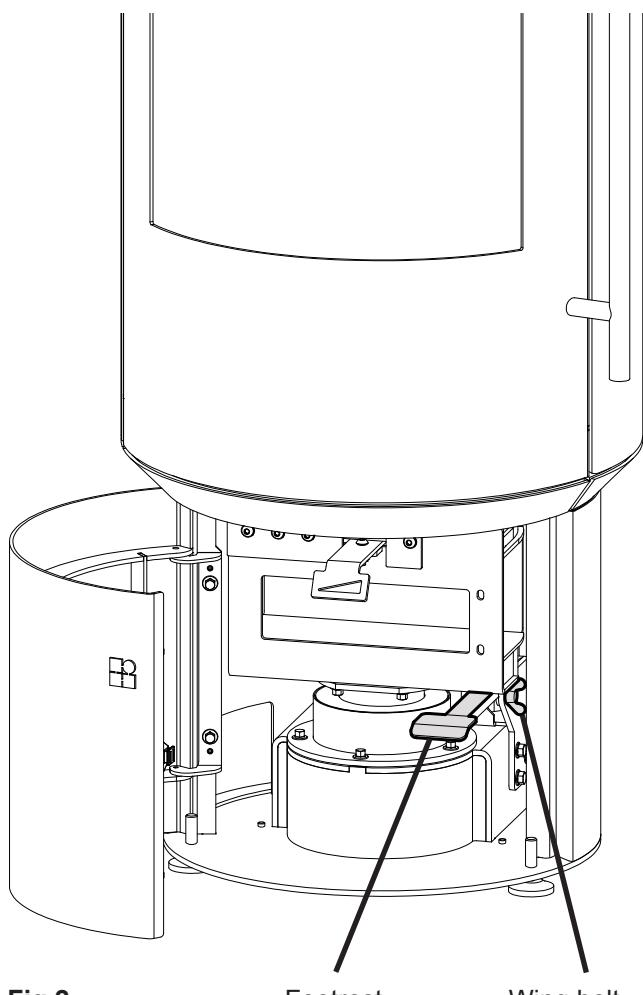

Fig.2
The stove is delivered with the footrest engaged (not rotating). If you want the appliance to rotate, you need to unscrew the wing bolt located on the right side of the footrest (see Fig.2). The footrest is located behind the inspection door.
- To allow for easier installation of the OEC, turn the rotating portion of the appliance all the way to the left / right using the footrest (see Fig.2). Release the arrest of the footrest; see chapter „Stove rotating“.